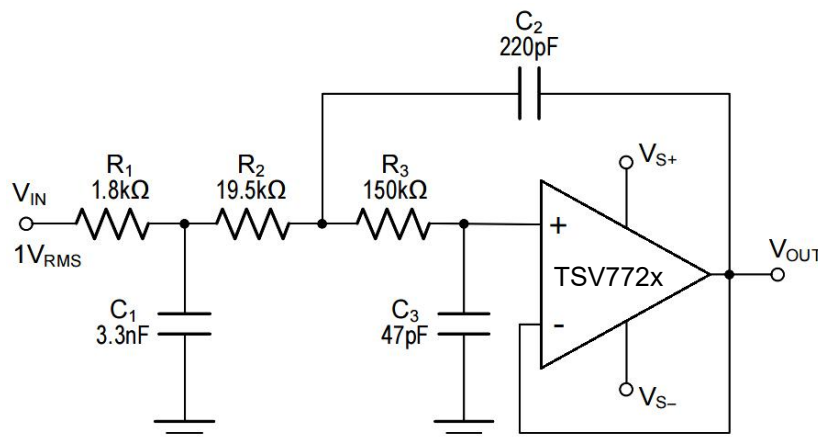

Figure 6. Configured as a Three-Pole, 20-kHz, SallenKey Filter
3. using a non-inverting filter topology, such as the Sallen-Key (shown in Figure 6).